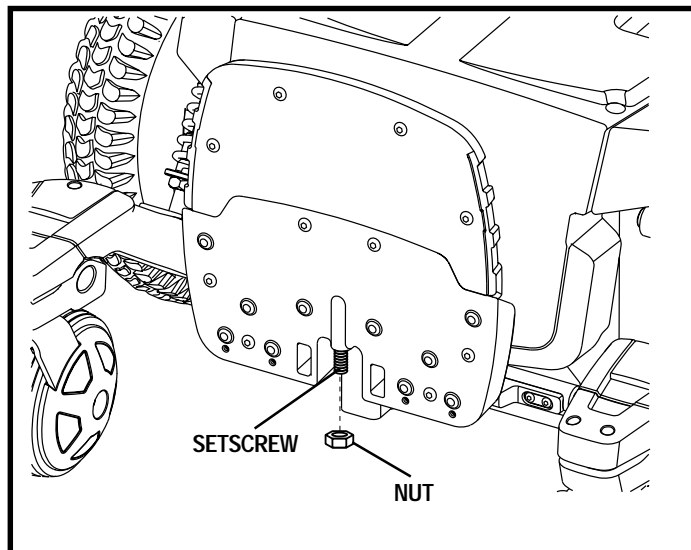

Figure 19. Underside of Foot Platform
1. Flip up the foot platform and locate the setscrew. See figure 19.